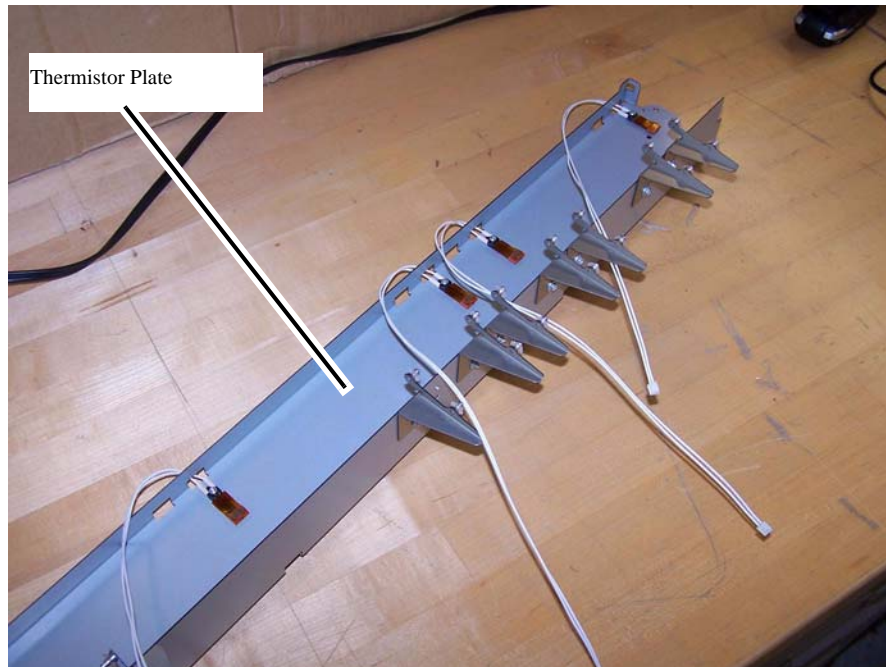

Figure 1 Thermistor Plate
2. Perform REP 10.6 Thermistor Plate (see also Figure 1).